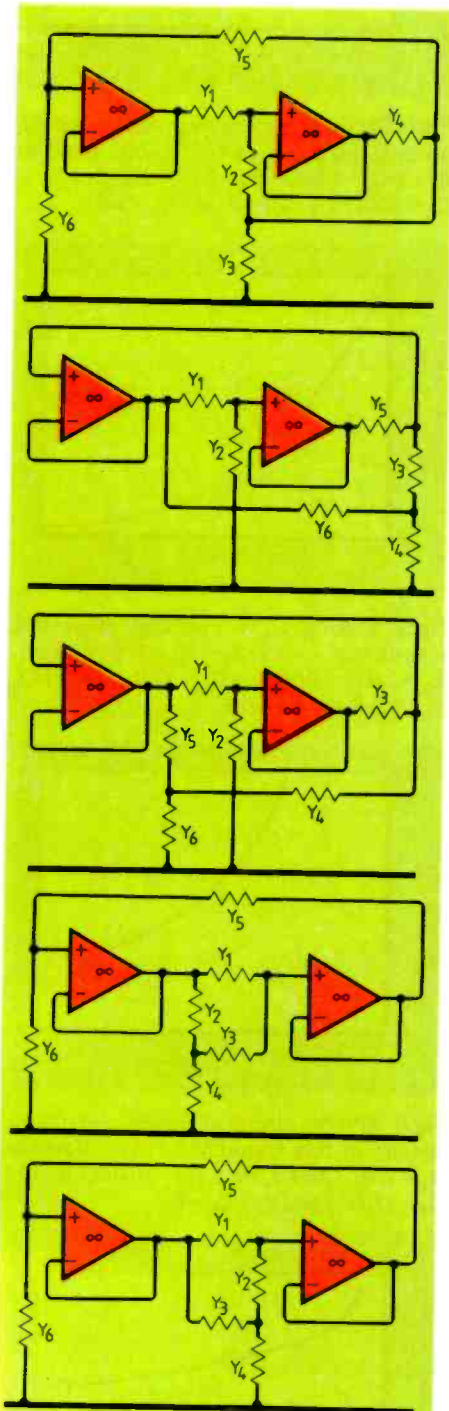

Fig.1. Five oscillator configurations using op-amps connected for unity gain to achieve higher oscillation frequencies.
Consider the five configurations of Fig. 1. Assuming ideal unity-gain amplifiers, routine analysis yields the characteristic equations of the circuits which are, respectively,
**Fig. 2.** These ten new oscillators derived from the configurations of Fig. 1 each have two op-amps connected for unity gain, three resistors and three capacitors.